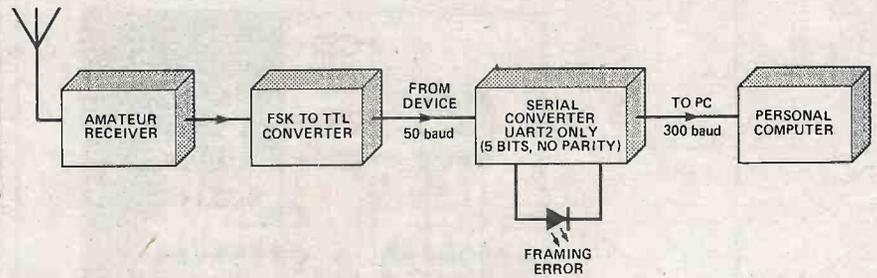

Fig. 8 Converting 50 baud RTTY signal to 300 baud for a computer.
There are many other applications. Converting RTTY from an amateur receiver to a PC is an interesting possibility. Converting 50/300 is shown in Fig. 8. Here only UART2 is used and UART1 need not be mounted. For RTTY operation, every baud rate is available (Table 2). For modem operation, even a Bell (US) 5-band back channel is obtainable.